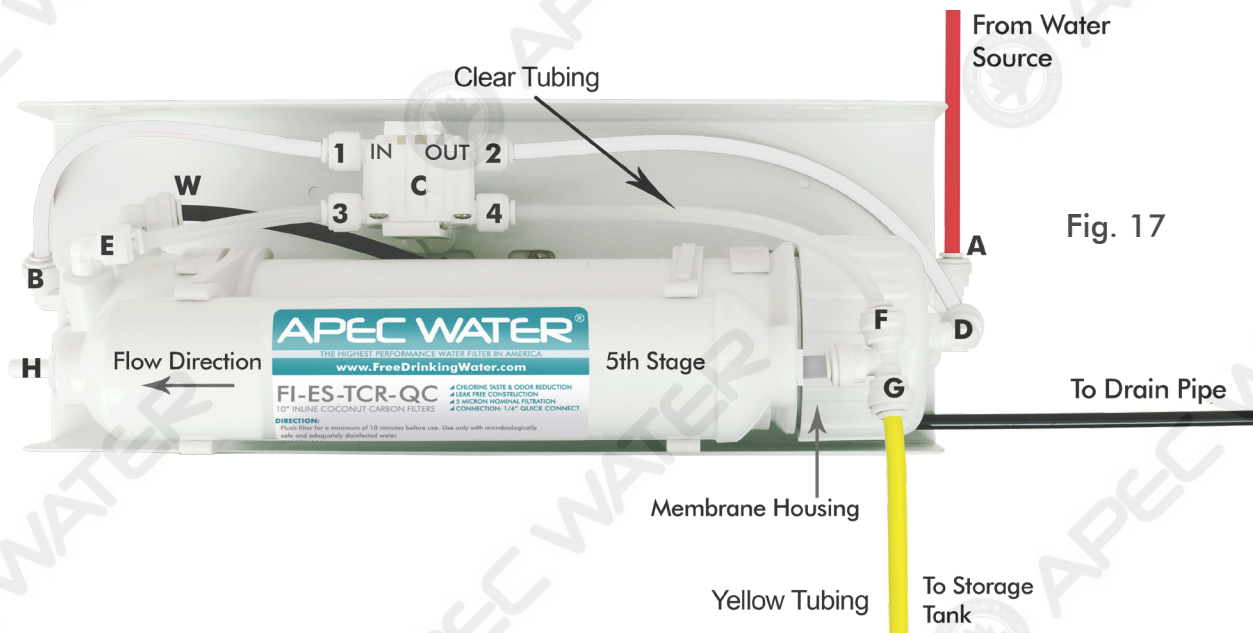

Fig. 17
- ASO connection Error —> See **Fig. 17** to reconnect ASO to the correct connection.
- Disconnect the water tubing at Stage 3 output **Point C1 (Fig. 17)** and aim the tubing at the bucket. **Point D** is the stage 4 RO filter inlet tubing.
When RO makes a humming noise, most likely it's caused by air bubbles being trapped in the "Check Valve" during installation. See check valve on **Fig. 17, point E (Page 29)**.